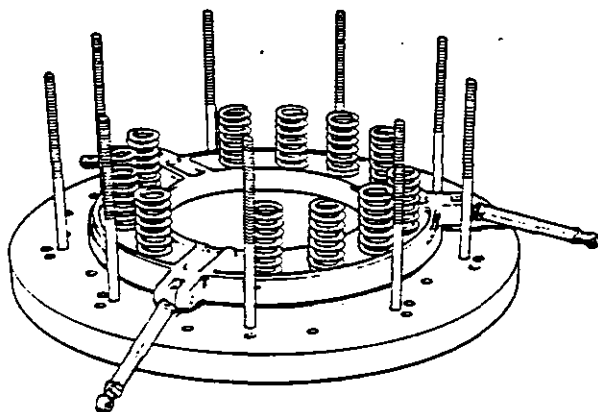
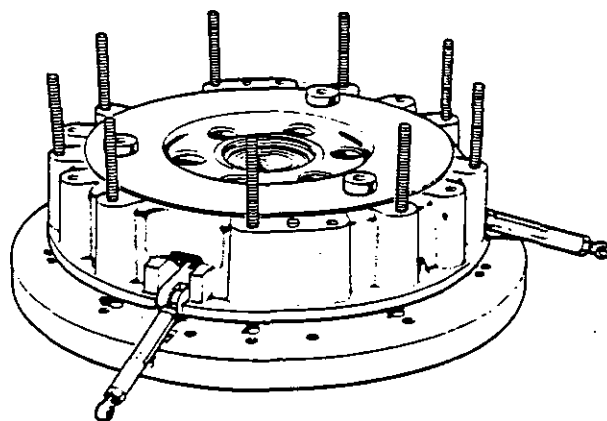

Figure 24. ASSEMBLING PTO PRESSURE PLATE
Figure 25. FITTING SEPARATOR HOUSING.
2. Place Code 3 spacers on baseplate and place PTO pressure plate on spacers; position plate so the spacers are adjacent to plate lugs. (Fig. 24.) Fit red springs on pressure plate and, after smearing plate lugs with anti-scuffing paste, place separator housing in position. Align the assembly marks and ensure that no insulating washers fall out as the housing is inverted. (Fig. 25.)